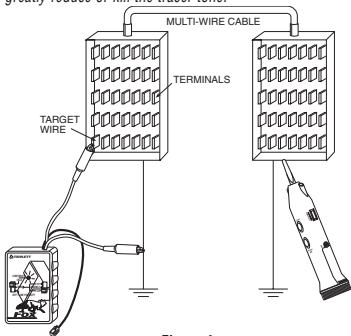

Figure 4
*In the **grounded method** (also called **Line to Ground**), one clip of the FOX or FOX 2 (either the red or green) is connected to earth ground or a “fake ground”, and the other clip is connected to the target wire. The target wire can be one wire of a pair or a multiwire cable. See Figure 4. This method creates the strongest tracer tone, and is often used when wires are traced through walls or ceiling. It is also useful for identifying a specific wire within a bundle of wires. If*